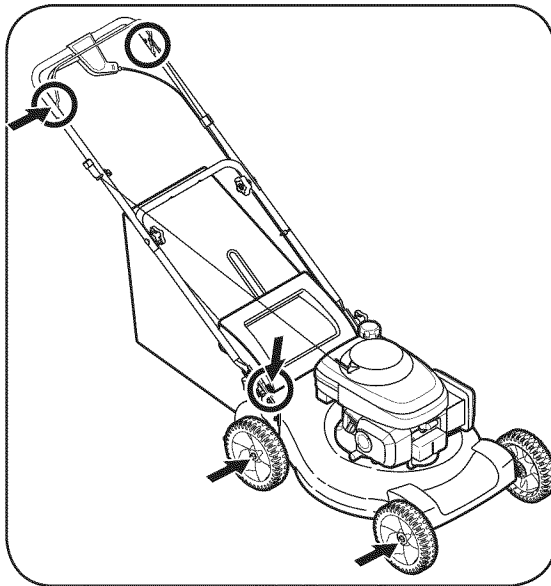

Figure 5-1: Lubrication areas on the mower.
1. Lubricate pivot points on the blade control at least once a season with light oil. The blade control must operate freely in both directions. See Figure 5-1.
2. Lubricate the wheels at least once a season with light oil (or motor oil). If wheels are removed for any reason, lubricate surface of the axle and inner surface of the wheel with light oil. See Figure 5-1.
3. Lubricate the torsion spring and pivot point on the rear discharge door periodically with light oil to prevent rust. See Figure 5-1.